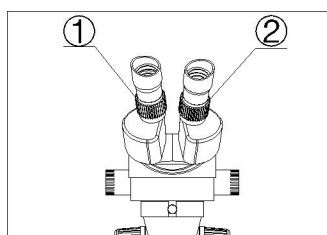

Fig.3
- 5) Observe the specimen through the right eyepiece and make the image clear by turning the right diopter adjusting ring②. (Fig.3)
- 6) Redo the step(1),(3),(4)and (5) till the right adjusting ring is more precise.
- 7) Do the step (4) and make the image clear which is observed through the left eyepiece by turning the left diopter adjusting ring ①. (Fig.3)